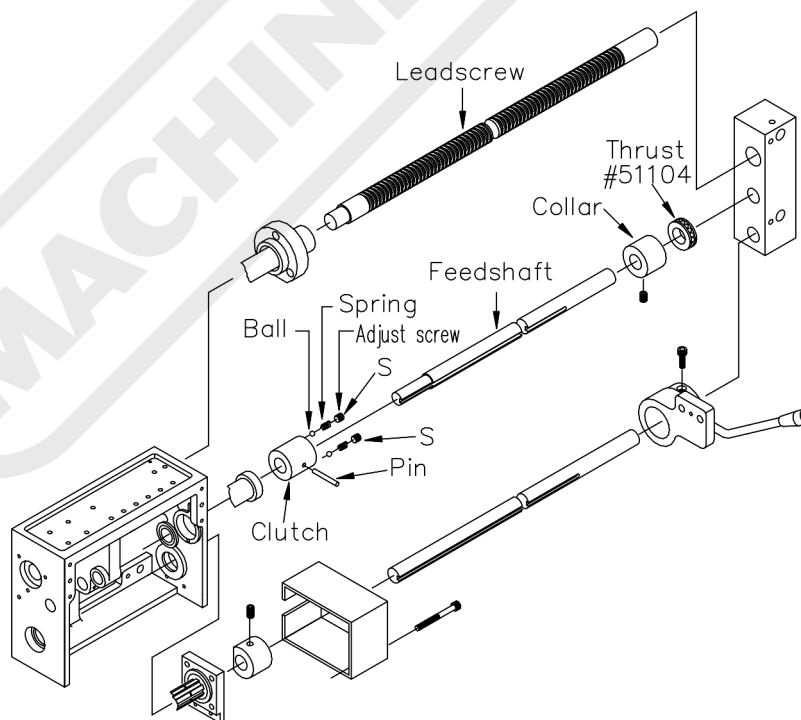

Fig. 6.11
3. If the clutch slips during normal work loads, increase the clutch spring pressure by tightening each of the two clutch drive set screws on the face of the clutch hub ("S" in Fig. 6.11) one full turn, then re-check for slippage.